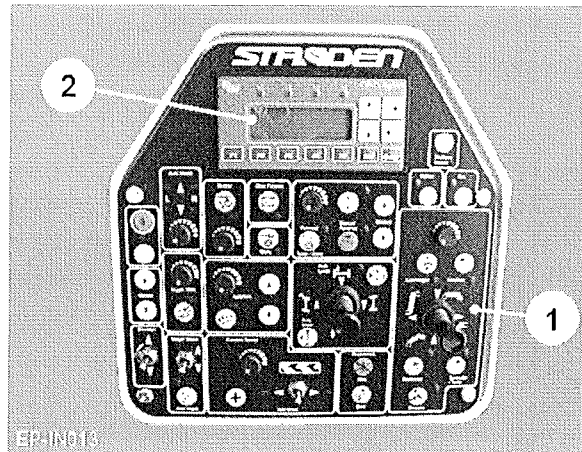

Fig 27
Control for the major functions of the Standen Enterprise are provided electronically by the switches mounted on the in-cab control box (item 1, fig 27) switching the valves on the machine via a CAN-Bus control system. The functions can be monitored from the control box display screen (item 2, fig 27). Setting and monitoring can be carried out by following the instructions in the CAN-Bus operating instructions.